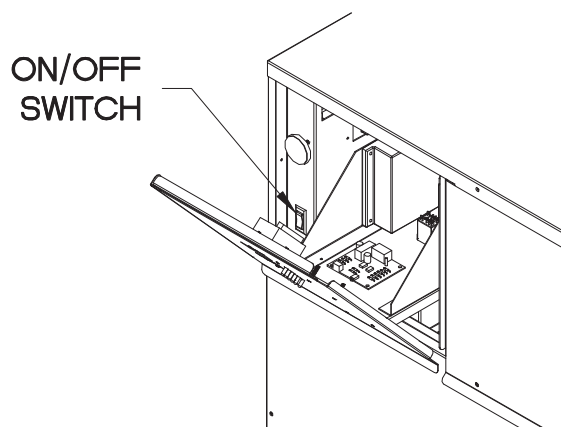

Figure 42 – ON/OFF Switch
- Locate the ON/OFF switch inside control area. Switch is located to the left of the pull out control circuitry tray (see Figure 42).